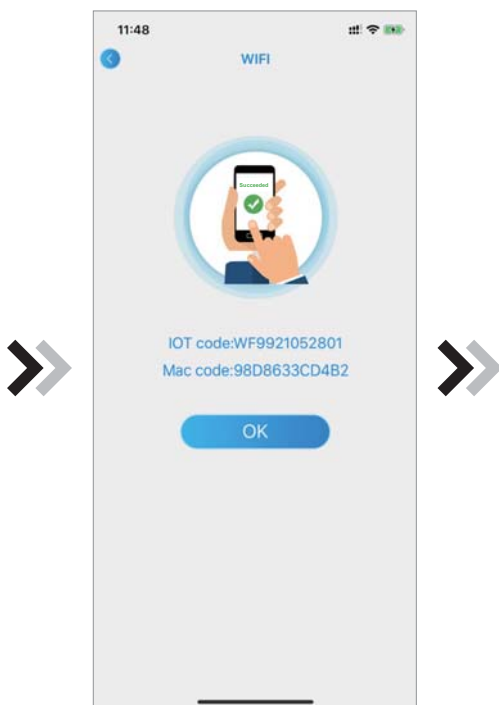

Fig.16 Bond device done interface
5. Click “OK” to allow this APP to use the camera for scanning the barcode on heat pump unit (Fig.15); click “OK”, device bond is done (Fig.16);